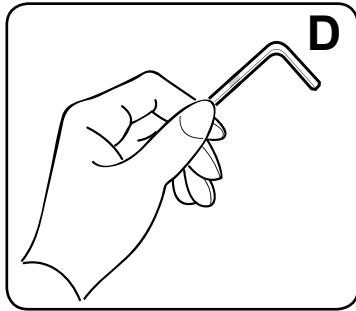

fig. 4.1
**4** **NOTE:** This product is factory set for a 19" (483 mm) monitor. When changing the size of the monitor, adjust the control bolt with M4 wrench as shown in figure 4.1.